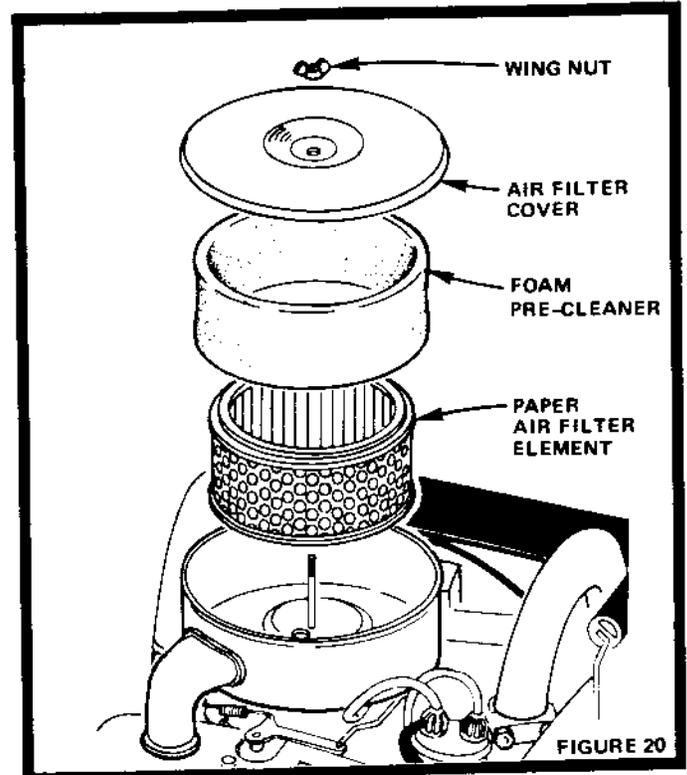

FIGURE 20
- a. Unscrew Wing Nut (Fig. 20) to remove Air Filter Cover, Paper Air Filter Element and Foam Pre-Cleaner.